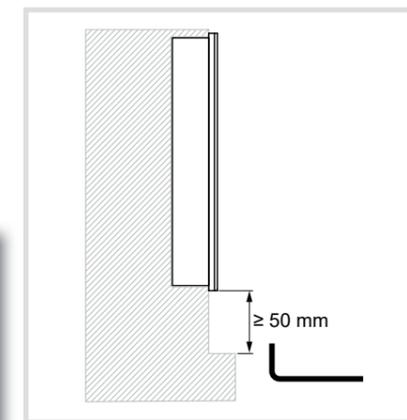

Fig. 9: Minimum spacing for mounting / dismantling
- i** Maintain a minimum distance of 50 mm from any underlying objects, e.g. projection on a wall. To allow the opening of the door station with the opening tool (Figure 9).